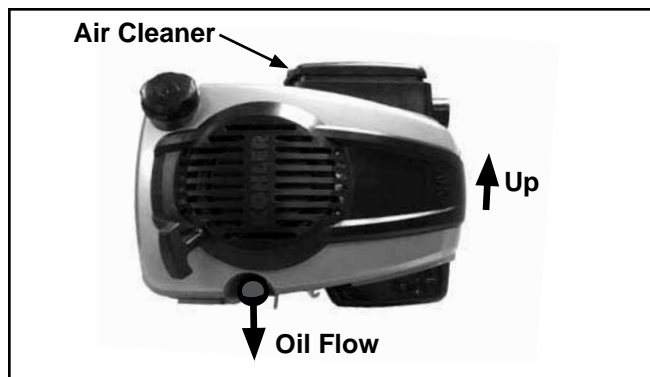

Figure 6-5. Tilted Engine With Air Cleaner Up.
2. Tilt the engine on its side with the air cleaner facing up. See Figure 6-5. Drain oil into an approved container.